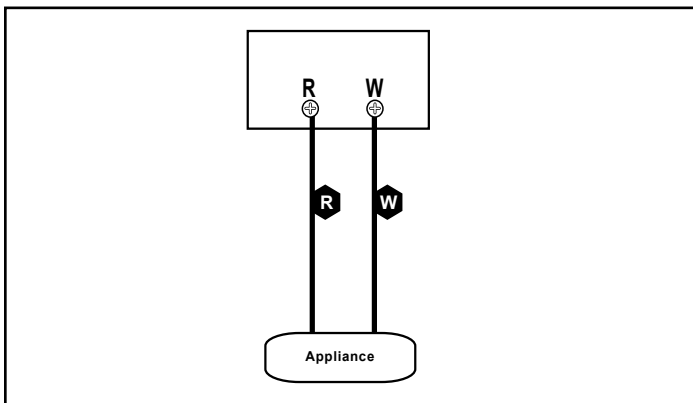

Figure 20.1
1. Connect your thermostat wire to the W and R terminals (Figure 20.1).